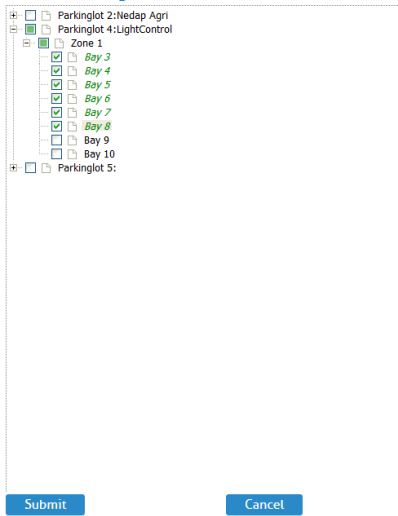

Figure 46: Select parking bays
- Parking bay binding Click '**Change bay binding**' to select specific parking bays and link these to an authorization. See Figure 46.